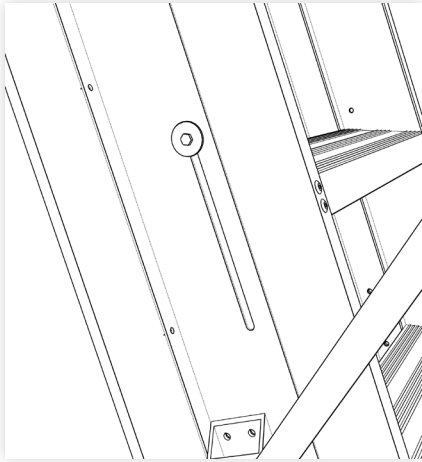

figure 10
3. The ladder can be adjusted up 45mm or down 45mm. Loosen the screws located through the slots where the the top section stringers are fitted to the support frame. Move the whole ladder up or down the runners as neccessary to ensure that the rubber feet are firmly on the floor and the ladder sections are closing neatly where hinged. When properly adjusted to height tighten the screws in the slots. (Note; On the A31 the adjustment bolts may be hidden behind a spring.) Fig 10.